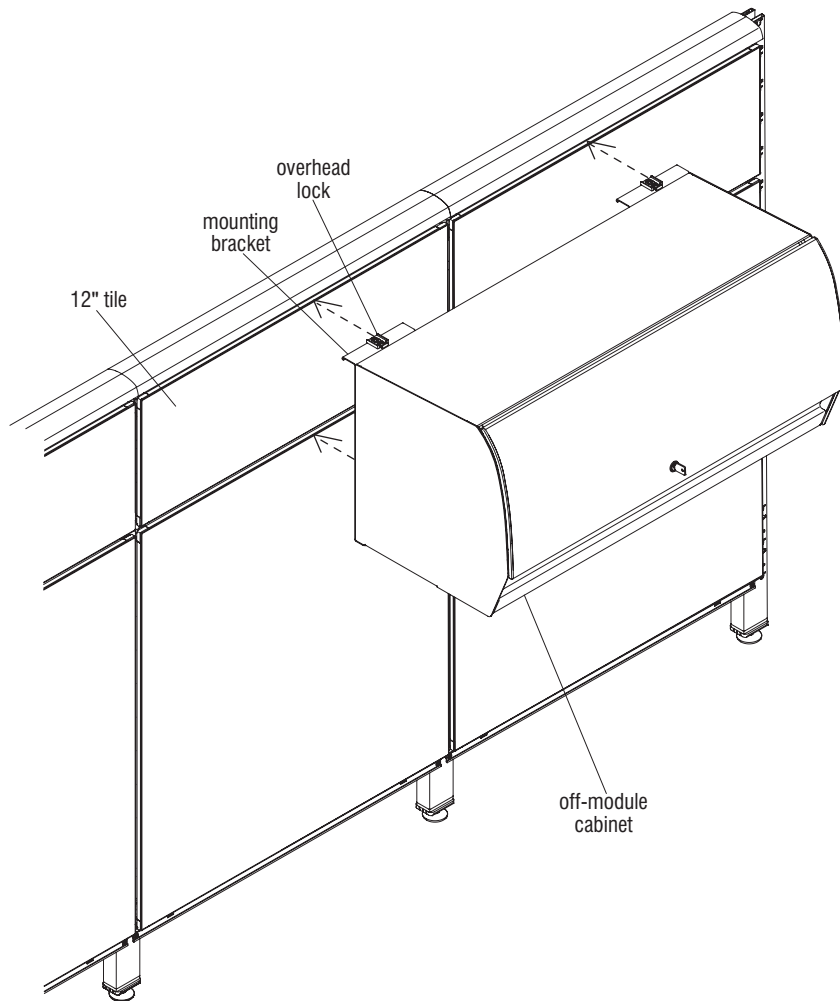

Figure 3
3. After the unit is hung in the track, move it to the desired position by gently lifting up while sliding it. Secure the cabinet on the tracks by pushing the overhead locks toward the track (Figure 3).